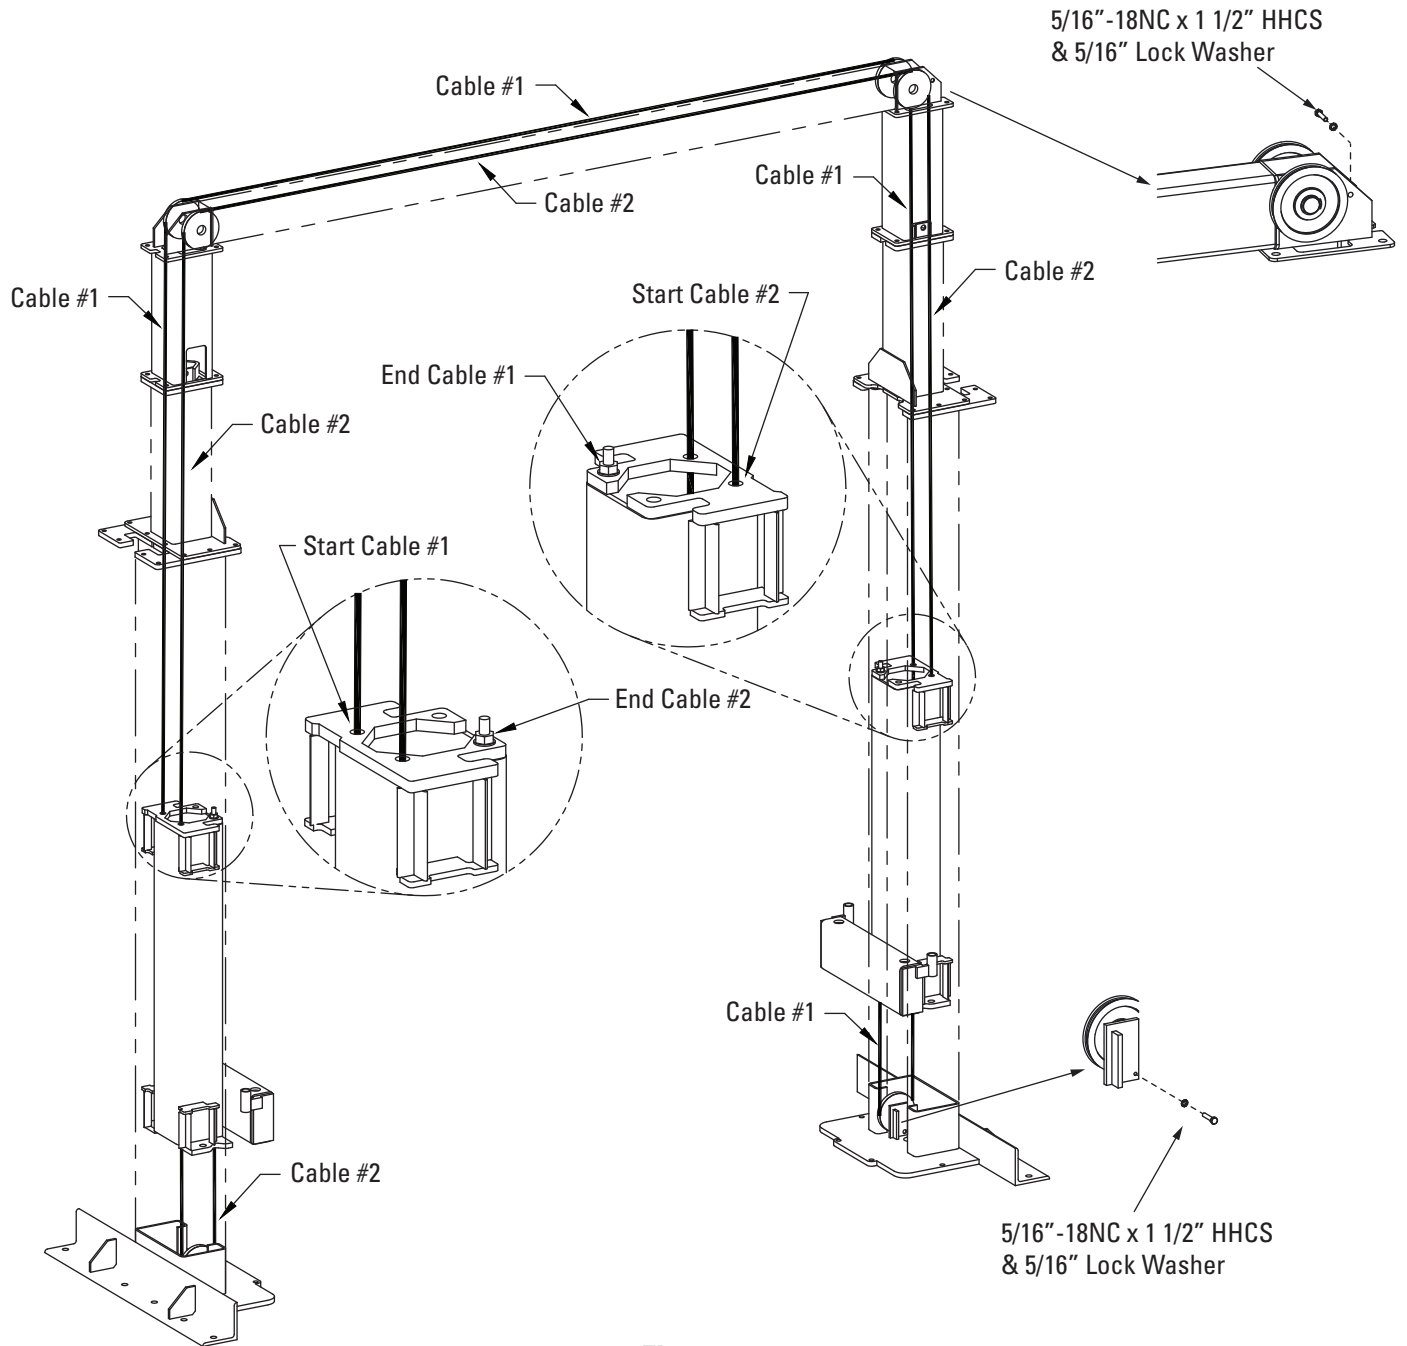

Figure 11
- D. Running the cables, Figure 11.